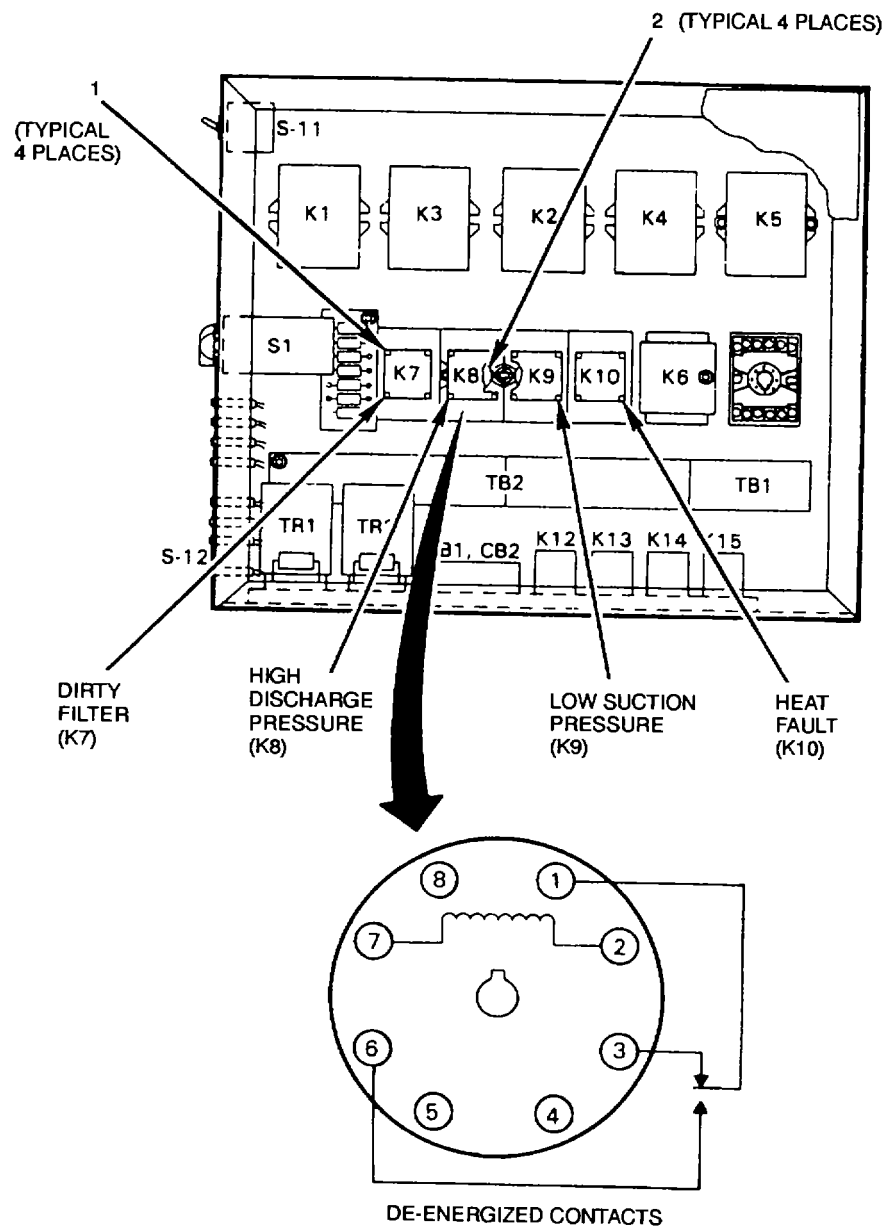

Figure 4-27. Fault Relays (K7-K10)
Pull relay (1) from socket (2) (see fig 4-27)